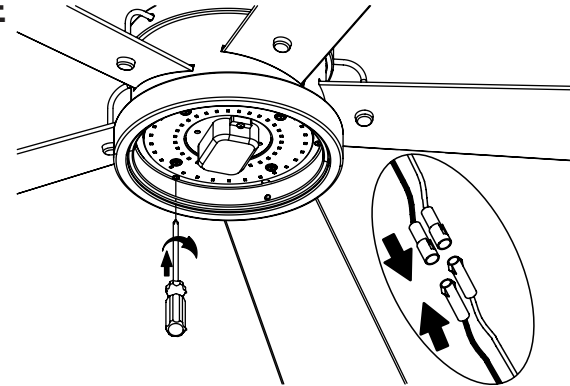

Fig. 21
Step 1. Hold the LED light kit to light plate, then connect the 2 single pin connectors from the light kit to the 2 single pin connectors from the motor assembly. Connect the black wire to the black wire, and the white wire to white wire. Attach the light kit to the light plate and securely tighten with three (3) screws from the screw pack. (Fig. 21)